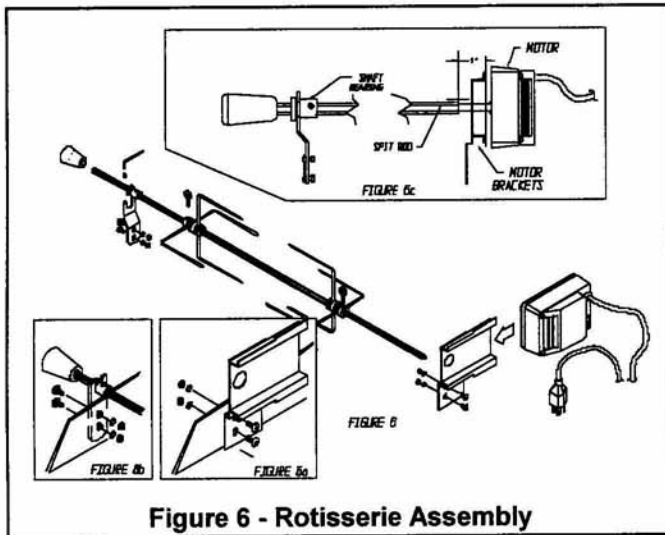

Figure 6 - Rotisserie Assembly
- 3) Check for proper placement of the burners, and positive connection of the venturi to the burner control valves (**figure 6**). If any components have moved or are not aligned, loosen the (2) #10 nuts securing the burners and re-align. These nuts may be accessed from underneath the grill. If your model includes the rotis burner, loosen the (4) #8 screws on the rear of the grill to align venturi.
- 2) Attach a bearing bracket opposite to the motor bracket with (2) 1/4" stainless screws and nuts.
- 4) Slide both forks onto spit rod (**figure 6**).